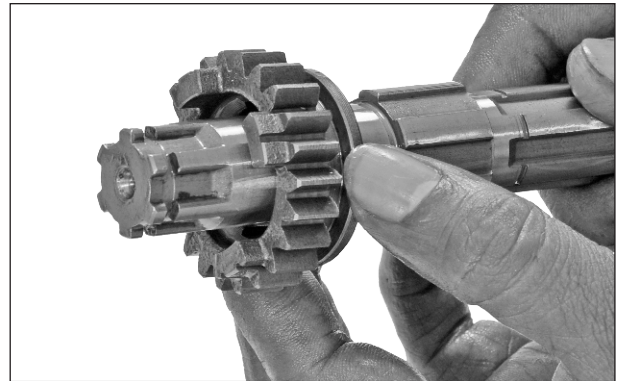

Fig. 3.165
- Take out the gear 5th driven. (Fig. 3.165)